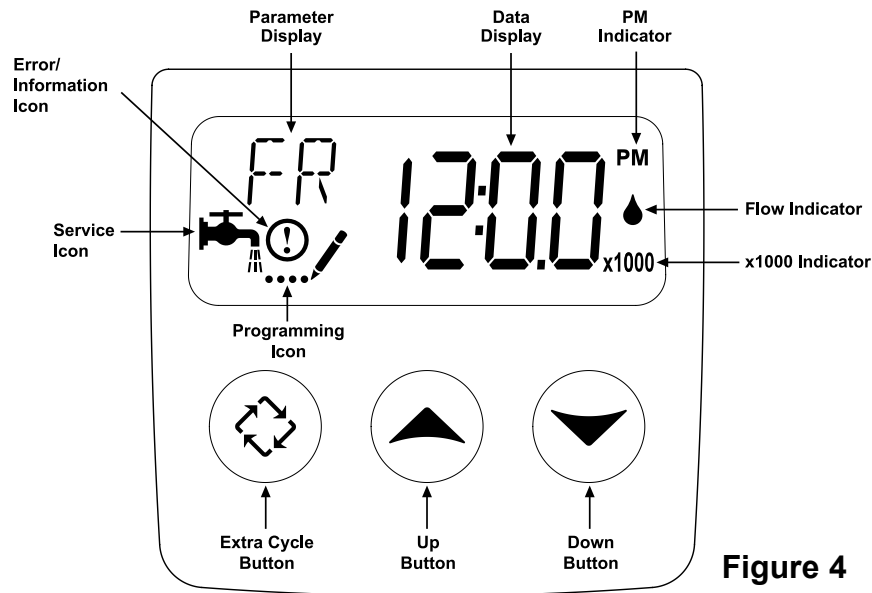

Figure 4
7. Plug the 24-volt transformer into a 120 VAC 60 Hz outlet. This valve has four positions: 1) Backwash and 2) Rapid Rinse. When the valve is in the Service position, the extra cycle button (far left button as shown on Figure 4) must be pressed and held for 5 seconds before it activates. Press and hold the extra cycle button for 5 seconds to advance the valve into the "1" Backwash position. Slowly turn on the water supply and allow the unit to backwash until the air purges out of the tank and clears the system.